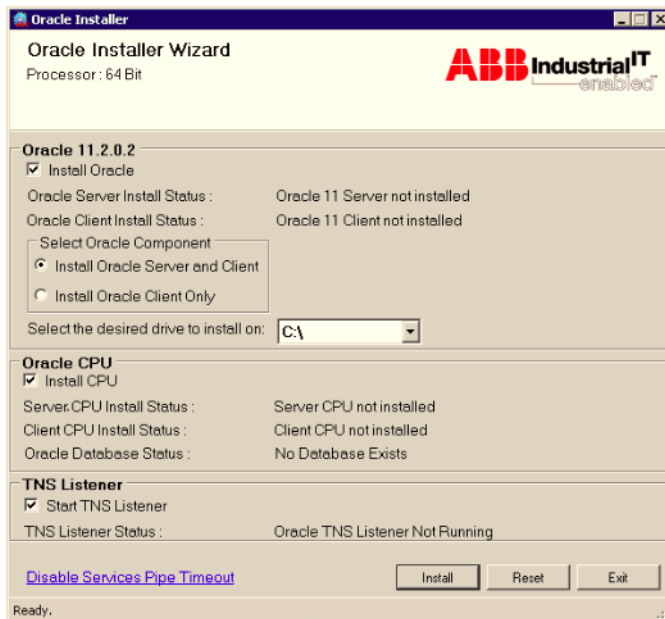

Figure 11. Oracle Installer Wizard
The wizard installs (Figure 11) the 64-bit version of oracle server and 32-bit version of oracle client in 64-bit node.
4. The Oracle Installer Wizard (Figure 11) containing the following components appears:
The Oracle Server, CPU, and TNS Listener are enabled for installation, by default. The status for the Oracle components is displayed as shown in Figure 11 for a fresh installation.